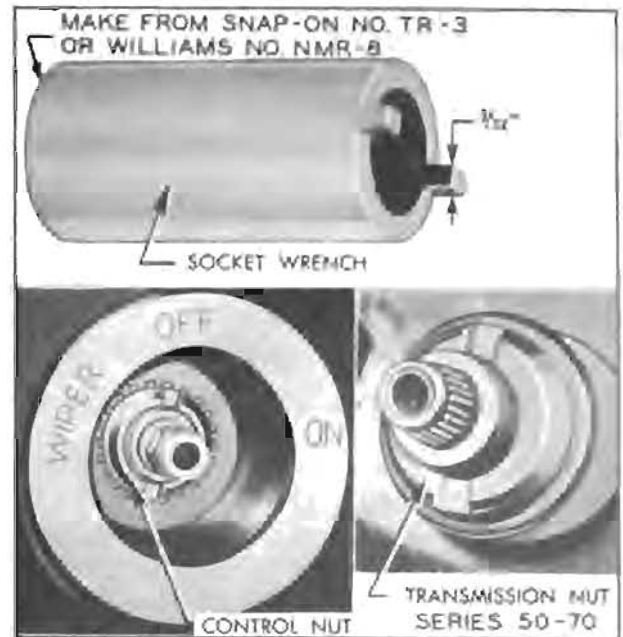

Figure 13-14—Control and Transmission Nut Socket Wrench
4. Using special socket wrench shown in figure 13-14 remove control nut and internal-tooth lockwasher then remove control from instrument panel. Disconnect windshield washer hoses if attached to control.
3. Remove transmission nut using special socket wrench shown in figure 13-14. Remove windshield washer nut and nozzle, then remove escutcheon.